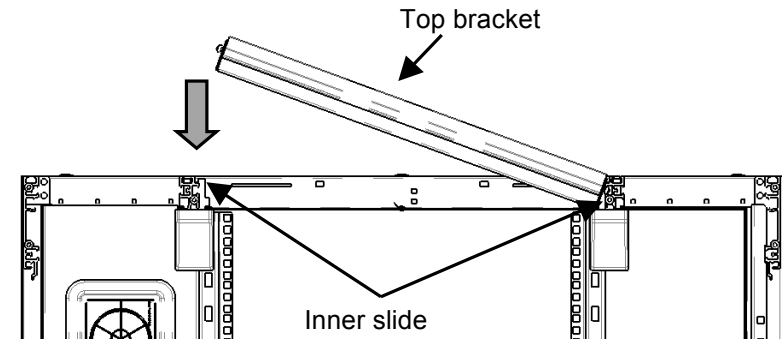

Fig. 8
5. Insert top bracket from behind the rails (Fig. 8).